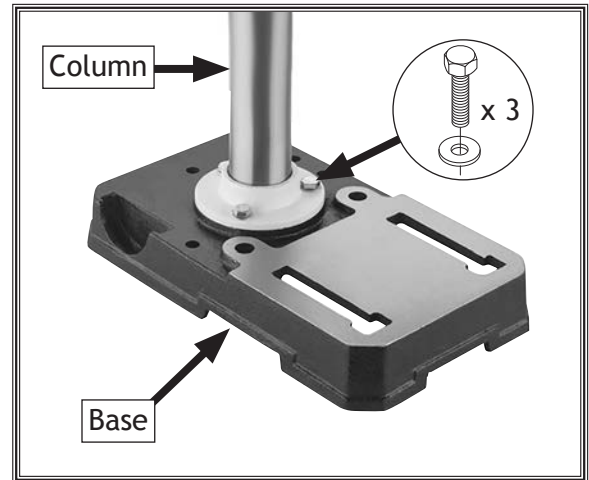

Figure 10. Column secured to base.
2. Secure column to base with (3) M8-1.25 x 20 hex bolts and 8mm flat washers (see **Figure 10**).